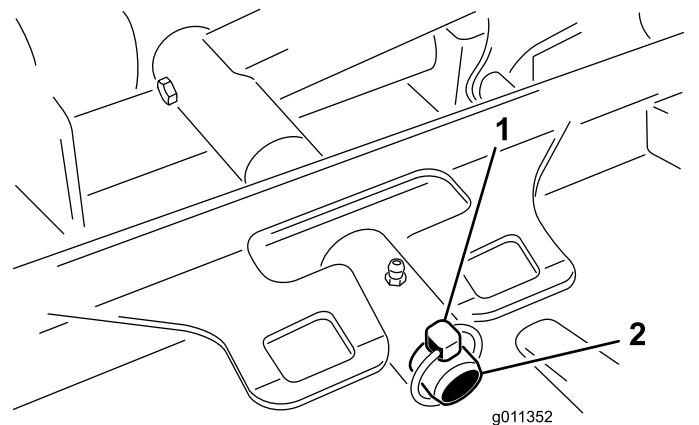

Figure 86
3. Remove the lynch pin (for Groundsmaster 4500 machines) or retaining nut (for Groundsmaster 4700 machines) securing the cutting unit-carrier frame to the lift-arm pivot pin (Figure 86).
2. Slide the cutting unit-carrier frame onto the lift-arm-pivot pin (Figure 86). Secure the cutting unit to the pin with the lynch pin (for Groundsmaster 4500 machines) or retaining nut (for Groundsmaster 4700 machines).